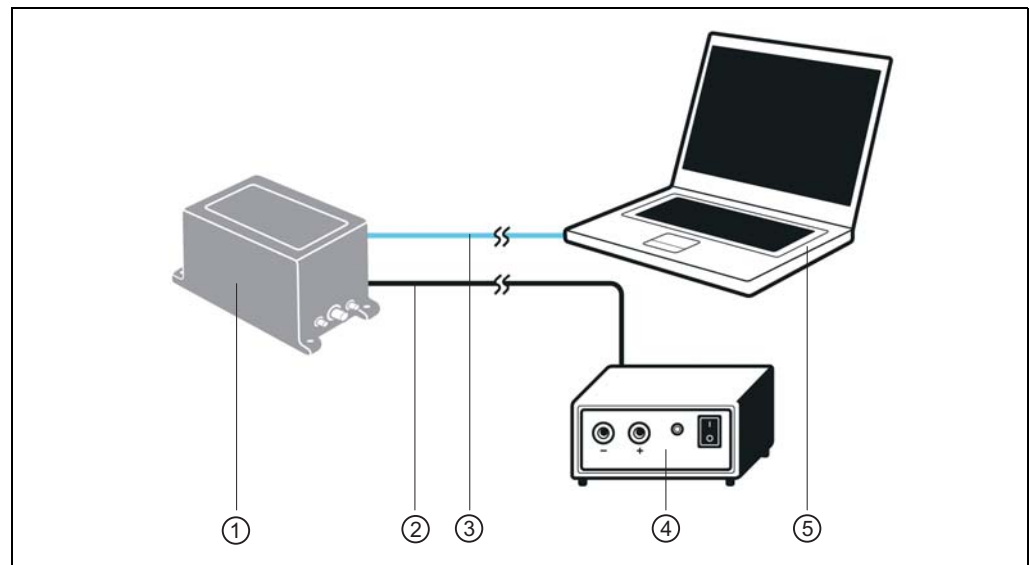

Fig. 5-3: Connection of the voltage supply and wiring of the Ethernet interface
1. Connect the supply cable, e. g. Part no. 2049823 (2 m (6.56 ft)), to the LD-MRS, see Fig. 5-3, page 70.